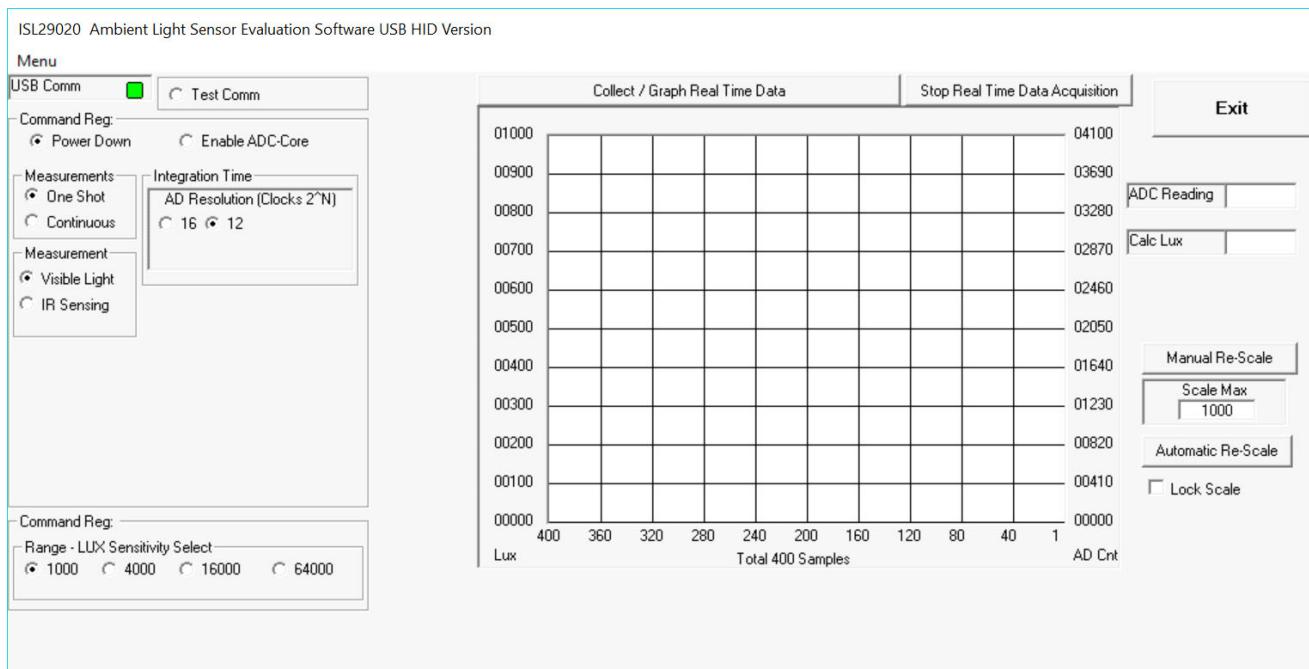
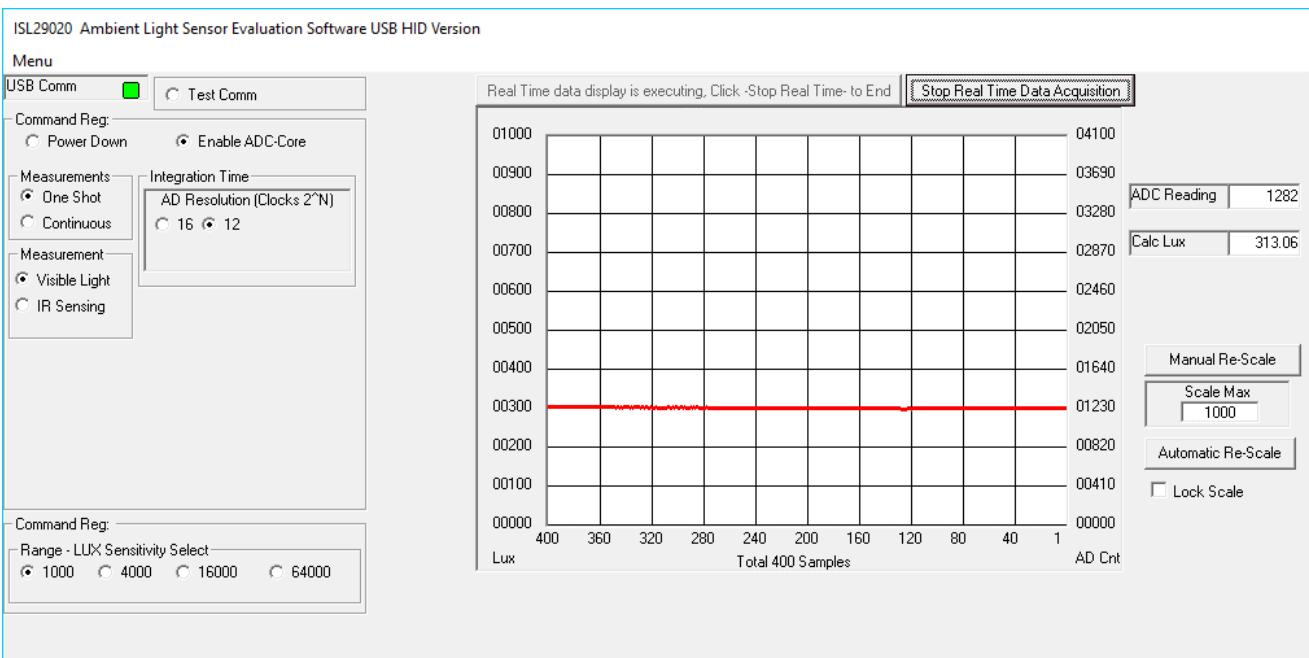
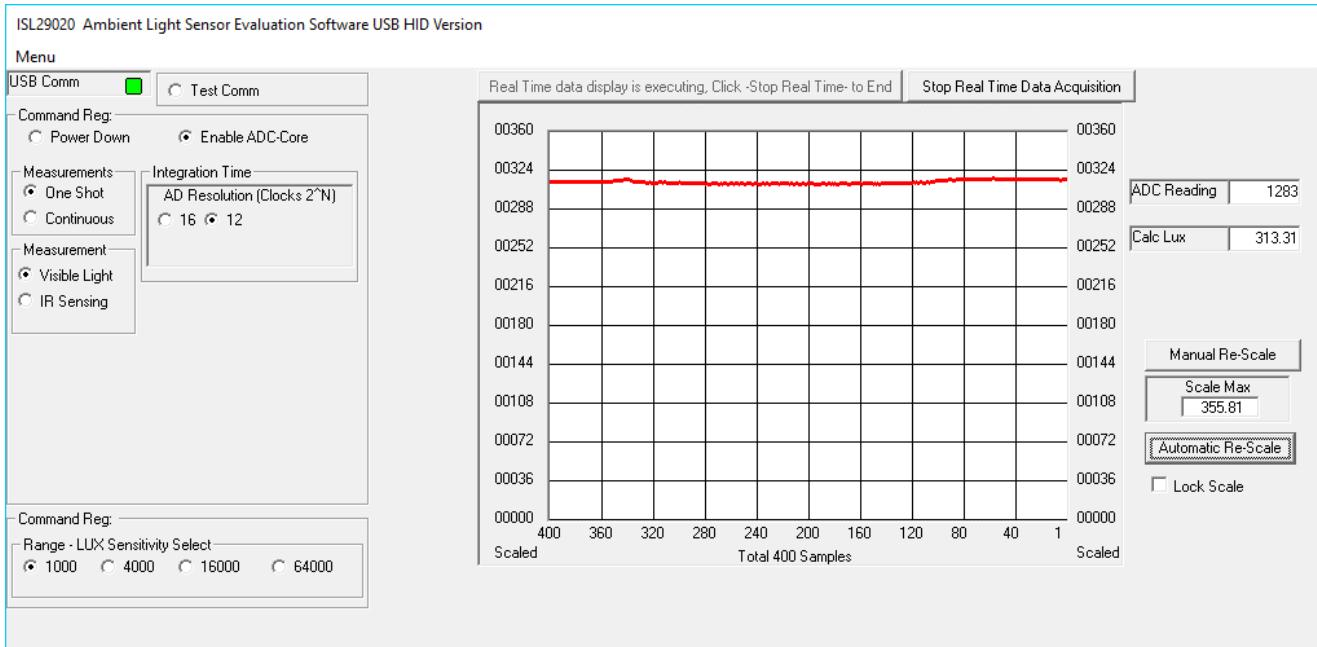

Figure 12. Software GUI
Figure 13. GUI Showing Data Waveform
Figure 14. Rescaled Waveform
- **Scale Max** - This is the maximum value that can be measured based on the resolution chosen (Integration Time). Maximum count increases with more integration time, see Figure 12.
The GUI page in Figure 12 appears after the .exe program executes. Click on the **Collect / Graph Real Time Data** command to see the GUI shown in Figure 13.
An ADC reading is displayed, 1282 in the case above, and a red data trace starts to march across the grid from right to left indicating the calculated light intensity in lux. The image in Figure 13 was recorded in a room illuminated with fluorescent tubes at a typical office space intensity. Click on **Automatic Re-Scale** to rescale the graph and produce the GUI shown in Figure 14.